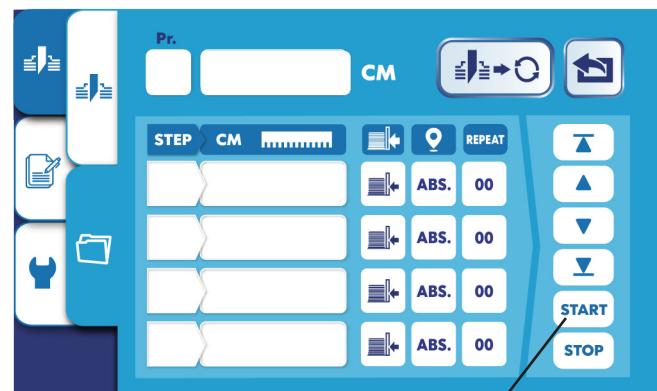

Fig. 12 Start icon
2. Load paper, and align to the back gauge and side guide using the wooden push block. Once the stack is aligned, press the Start icon (Fig. 12).